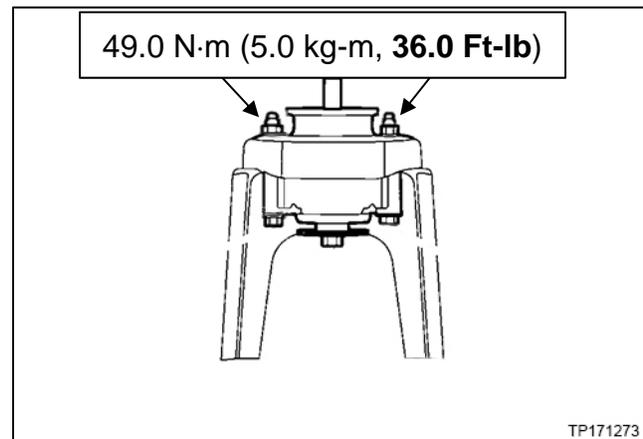

Figure 19
29. Torque the new rearmost cab body mount **outer** bolts to the specifications shown in Figure 19.